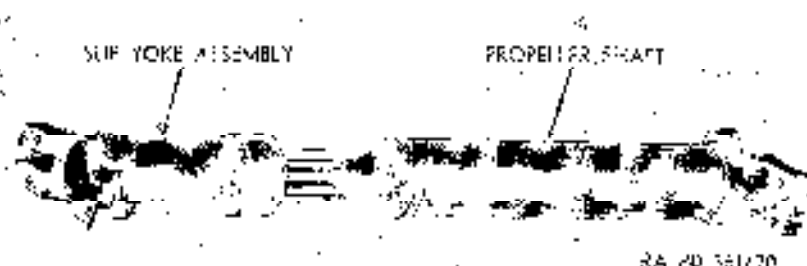

Figure 214. Propeller shaft assembly.
- (2) Align splines on power take-off shaft with splines in shaft coupling sleeve (fig. 214), and slide power-take-off on mounting stud.